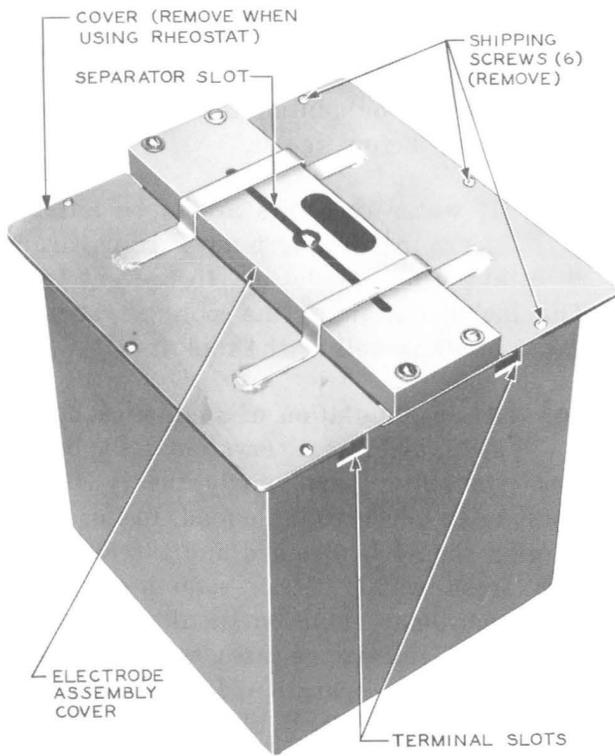
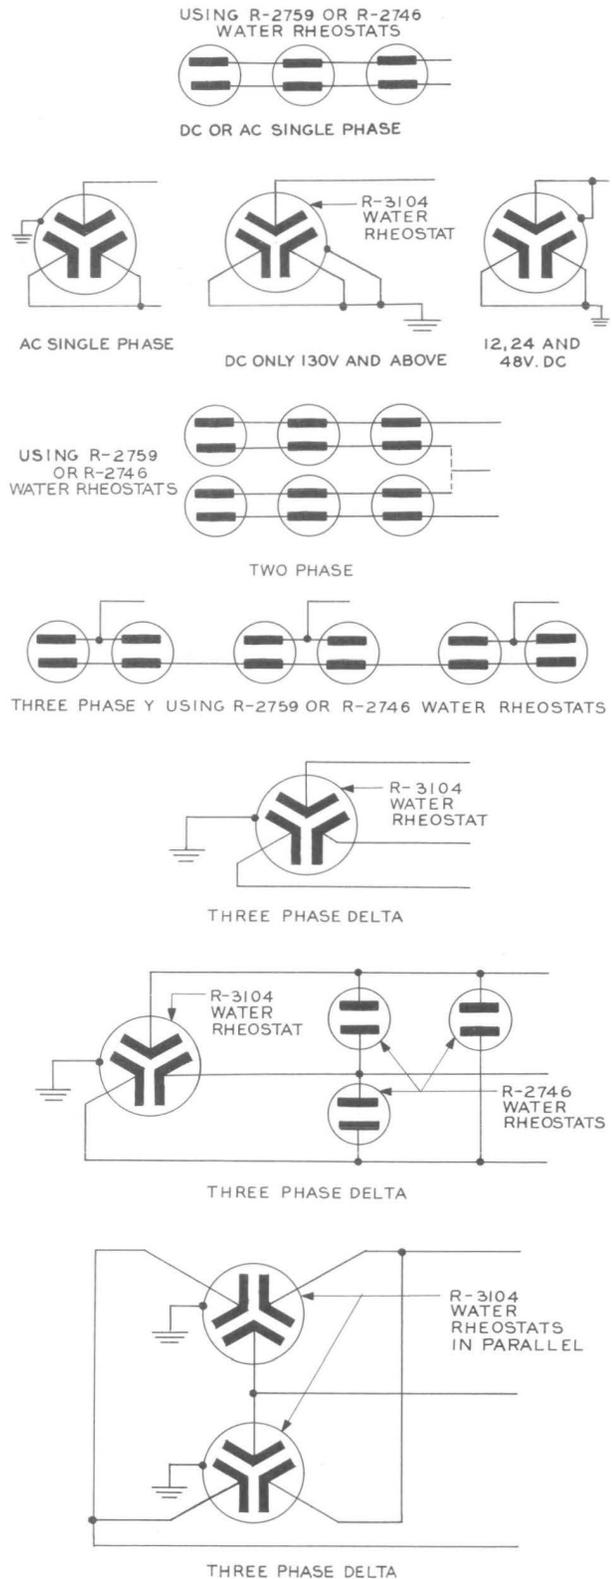

Fig. 12 - R-2759 6-KW Water Rheostat
Fig. 13 - Typical Electrical Connections for Water Rheostats
6.04 The R-2759 water rheostat, see Fig. 12, has been designed for applications where a small load is needed. Running water for cooling this rheostat is not required. Remove the two side covers which are attached to the shipping straps by removing the six bolts. With side covers removed, fill rheostat tank with water to about 1 inch below the terminals. Dissolve three tablespoons of sodium carbonate or sodium chromate in a pint of warm water and add this solution to each rheostat. A larger amount of sodium carbonate or sodium chromate will be needed for dc loading. The terminals are then turned out and the electrical connections are made to them. See Fig. 13.
6.07 Lower the separator to the bottom of the tank through the slot provided in the cover. The separator is maintained to any desired depth with the aid of wooden-spring-type clips, placed one at each edge of the separator, with the clips resting on the top cover of the rheostat. Electrical connections should be clean and tight. If a dc load is applied, the positive connection should be made to the plate nearest the cooling coil. On ac, either terminal may be connected. See Fig. 13.